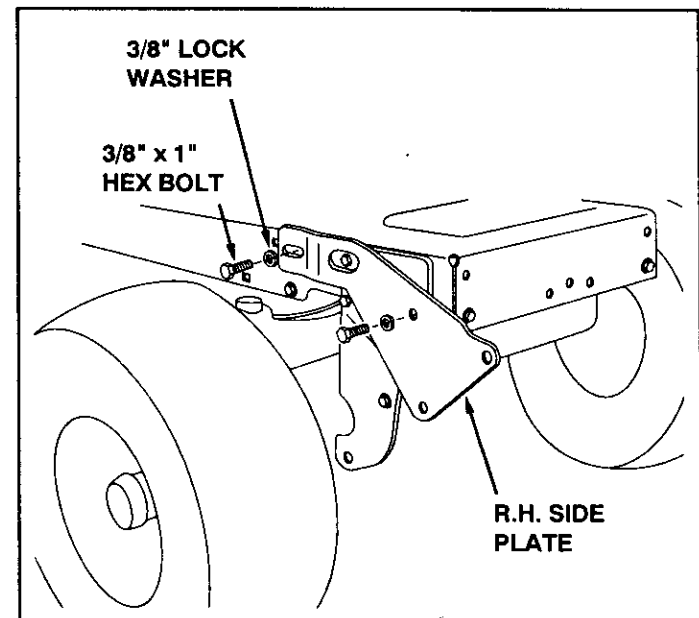

FIGURE 2
- Assemble the R.H. Side Plate (marked "R") to the now empty holes in the right side of the tractor frame. Use two 3/8" x 1" hex bolts and 3/8" lock washers as shown in figure 2. Repeat for the L.H. side.